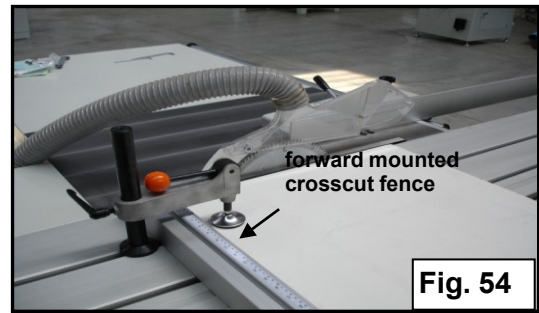

Fig. 53
6. Tighten down the micro-adjust lock knob (Fig. 53) and turn the micro-adjust lock to zero in on the desired width-of-cut.